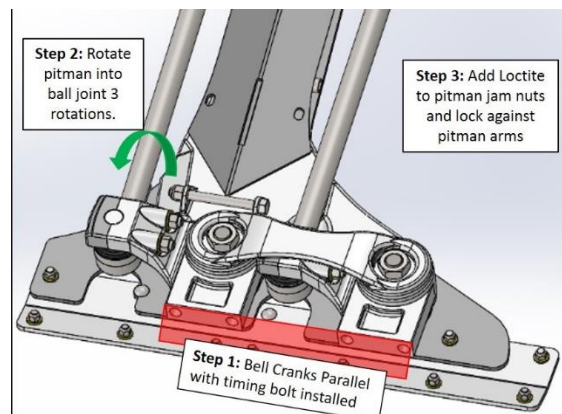

Figure 110
4. Remove the knife head bearings and use a straight edge to set the bell cranks parallel. This is the starting point for the timing. Figure 110
Note: Make certain the tie rods stay straight when tightening the jam nuts. Use a pry bar to hold the tie rods in place while tightening the jam nut. Figure 110